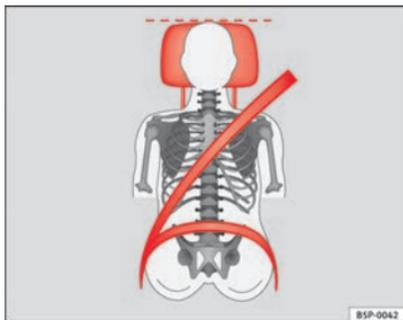

Fig. 12 Correct seat belt and head restraint positions, viewed from front
- The shoulder belt must be positioned around the middle of the shoulder. The seat belt must lie flat and snugly on the torso ⇒ fig. 12.